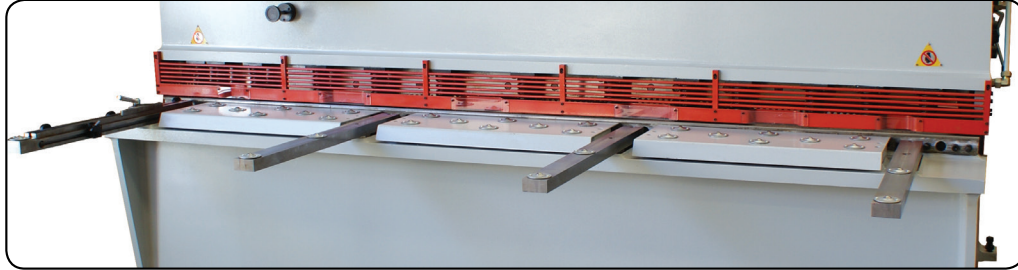

Fig. 3.4
- ❑ Bolt the support arms onto the feed table. Ensure they are level and square to the table. (Fig 3.4)